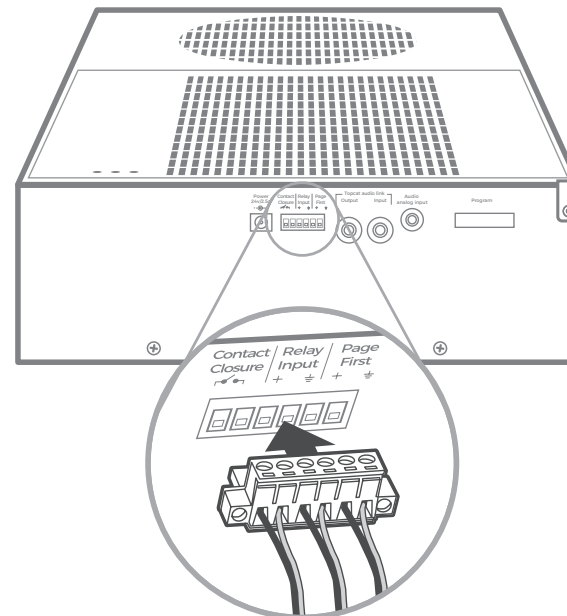

FIGURE 2:
1. Insert the euro-block connector of the wire into the PageFirst input jack on the Topcat. Secure with a screw driver by tightening the screw on the left and right sides of the terminals (Figure 2, previous page).